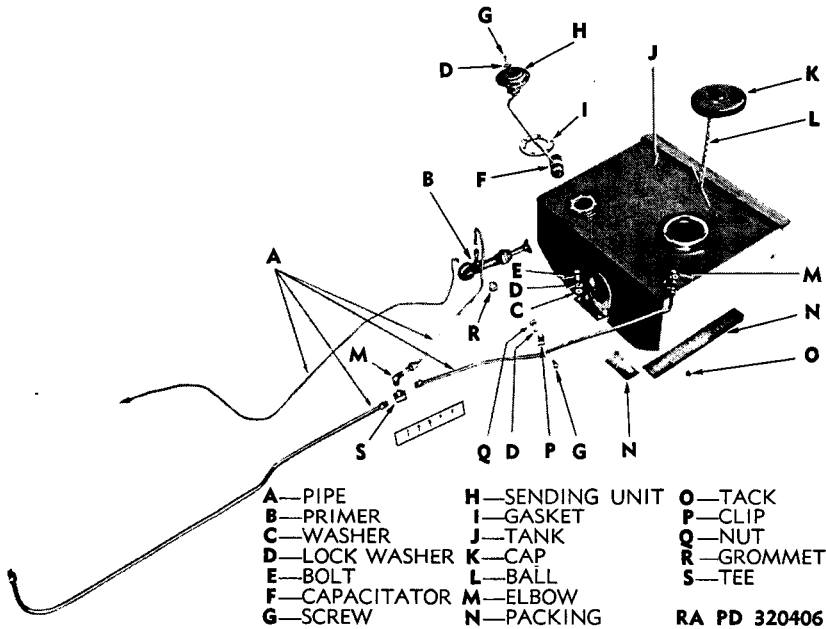

Figure 2 — Fuel Tank and Lines—Exploded View
a. **Description** (fig. 2). The fuel system of the engine is the same as that used in the $\frac{1}{4}$ -ton, 4 x 4, Command Reconnaissance Truck (Willys 1942), with the exception of the fuel tank.